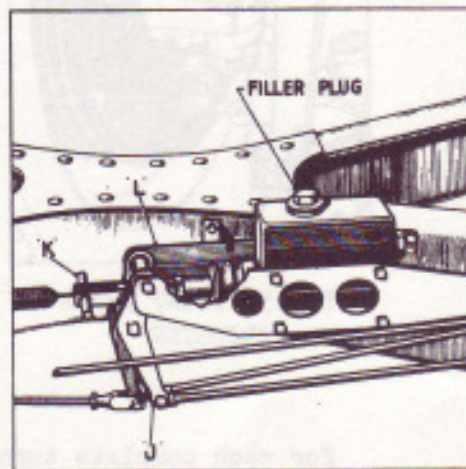

FIG. 7. HYDRAULIC MASTER CYLINDER AND RESERVOIR IN POSITION
(iii) Remove the filler plug (See Fig. 7) which is accessible from underneath the driver's seat, and fill the reservoir which is integral with the master cylinder with the recommended fluid.
(iv) Push the joint (J. Fig. 7) forward until the extended pin (K) abuts against the master cylinder support brackets (L).